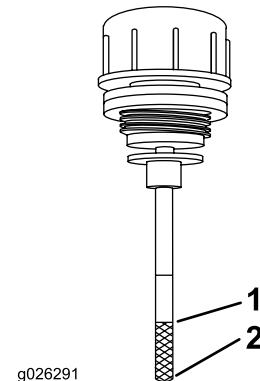

Figure 16
9. Remove the cap again and check the level of the oil on the dipstick (Figure 16).